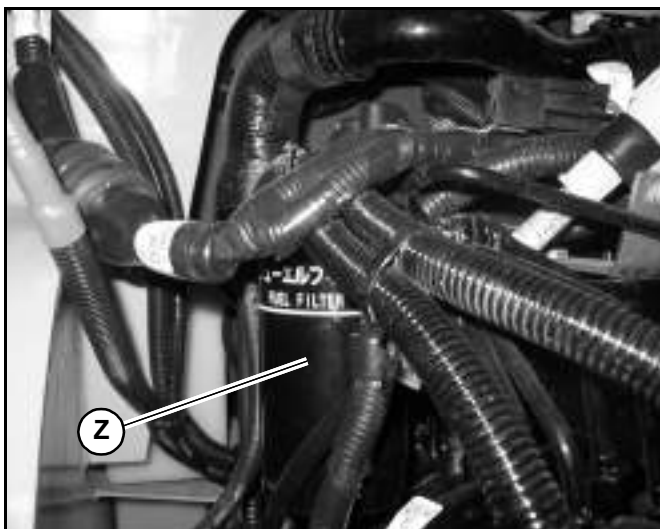

Fig. 97 – Engine Fuel Filter
- Remove the fuel filter (Z, Fig. 97), using a filter wrench if necessary. Carefully clean the filter head mounting surface with a clean cloth.